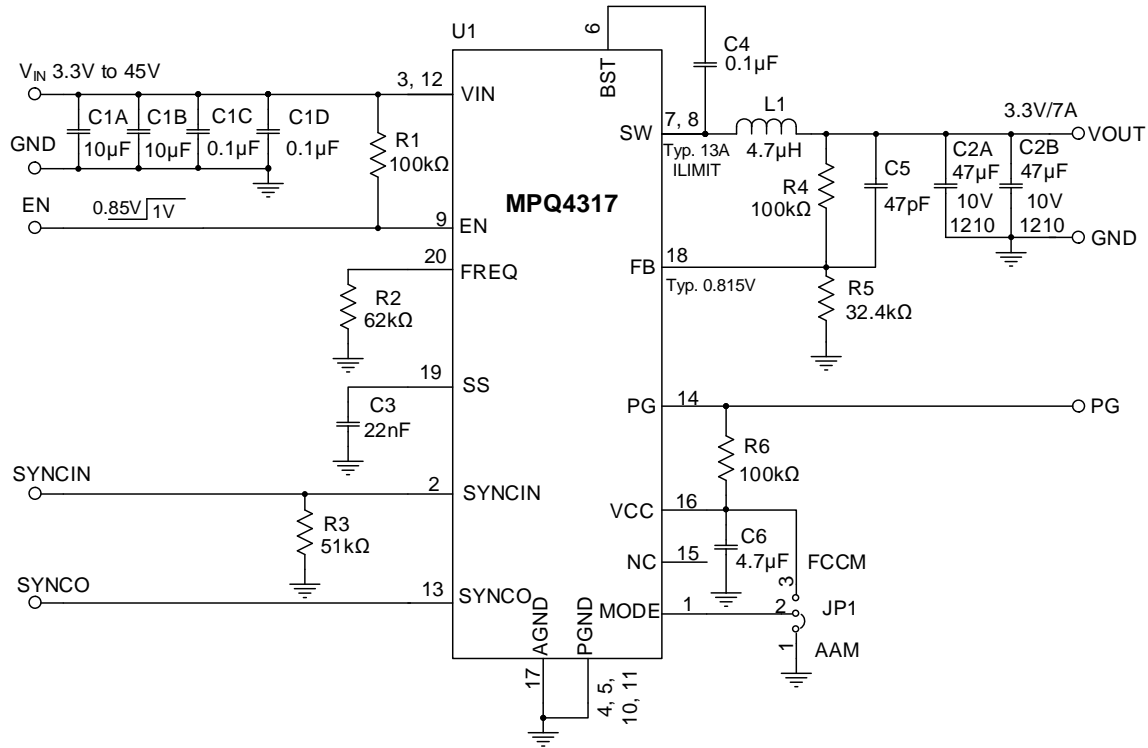

Figure 11: Typical Application Circuit ($V_{OUT} = 3.3V$, $f_{sw} = 470kHz$)
9) The recommended PCB layout is based on Figure 11 .